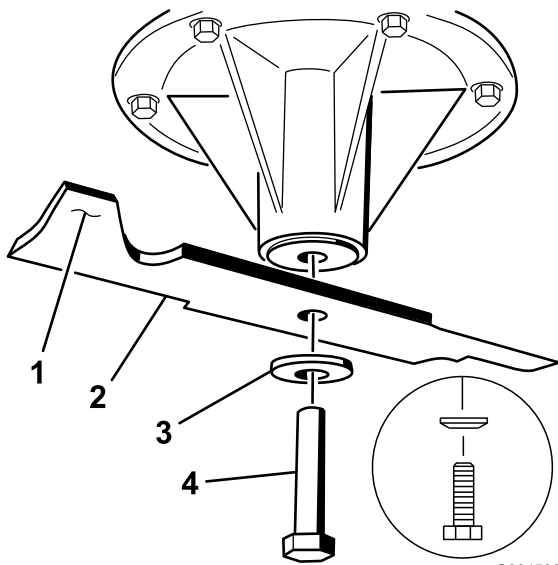

Figure 71
2. Install the blade onto the spindle shaft (Figure 71).
3. Install the curved washer and blade bolt (Figure 71).
Note: The curved washer cone must be installed toward the bolt head (Figure 71).